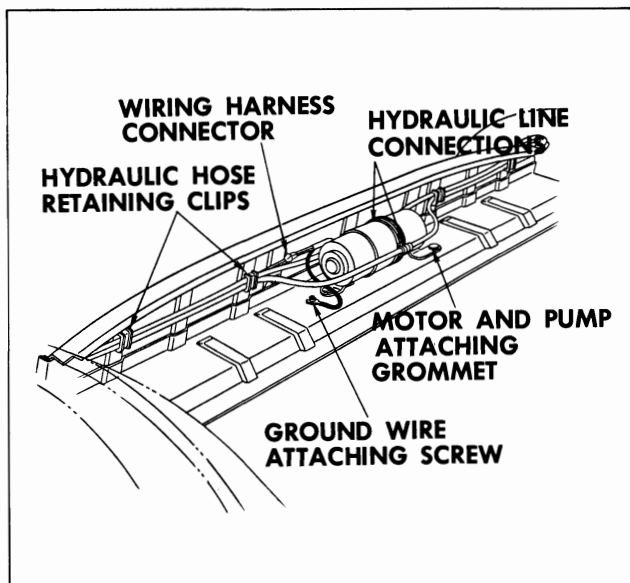

Fig. 21-45 Motor and Pump Assembly
The high pressure hydro-lectric unit used in the convertible bodies, consists of a 12 volt reversible type motor, a rotor-type pump, two hydraulic lift cylinders, and an upper and lower hydraulic hose assembly. The unit is installed in the body directly behind rear seat back (Fig. 21-45).
6. Remove clips securing wire harness and hydraulic hose to rear seat back panel (Fig. 21-45).
7. Disconnect motor leads from wire harness and ground attaching screws (Fig. 21-45).
8. To facilitate removal, apply a rubber lubricant to pump attaching grommets and carefully disengage grommets from floor pan (Fig. 21-45).
11. Disconnect hydraulic lines and cap open fittings to prevent leakage of fluid (Fig. 21-45). Use a cloth to absorb any leaking fluid, then remove unit from rear compartment.
1. Check connection of motor ground wire to body metal (Fig. 21-45).